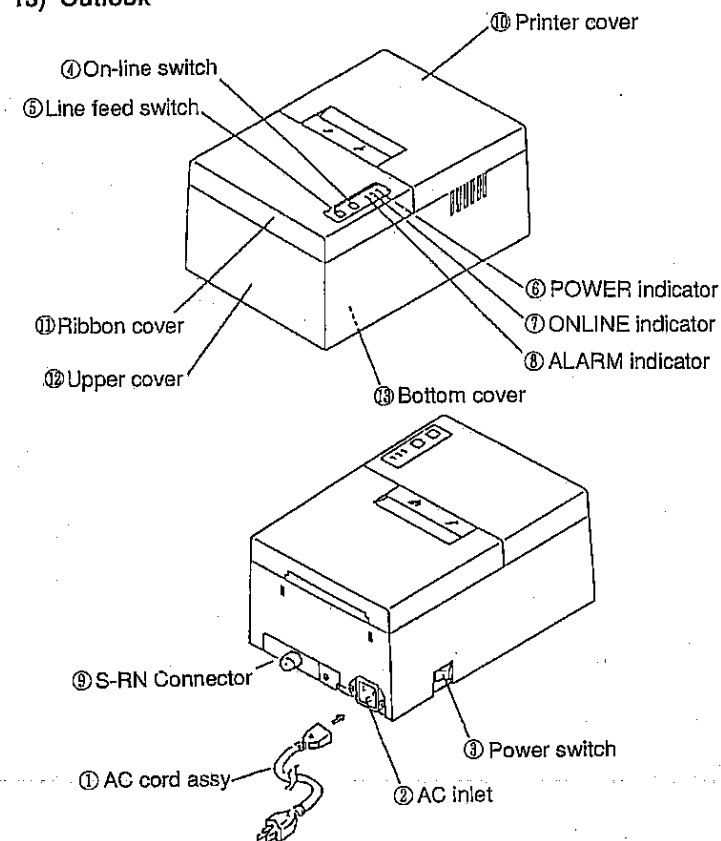

Fig. 1-1
18) Description of Each Block (Ref. Fig. 1-1)
- ① AC cord assy Insert the connector into the AC inlet of the printer and the plug into an AC outlet.
- ② AC inlet An inlet for power input. Insert the connector of the power cord assy into this inlet.
- ③ Power switch Set the switch ON to turn on power to the printer.
- ④ Online switch Press the switch to set the printer to the select (online) mode. Press the switch again to set the printer to the deselect (off-line) mode. The switch is also used to reset the alarm.